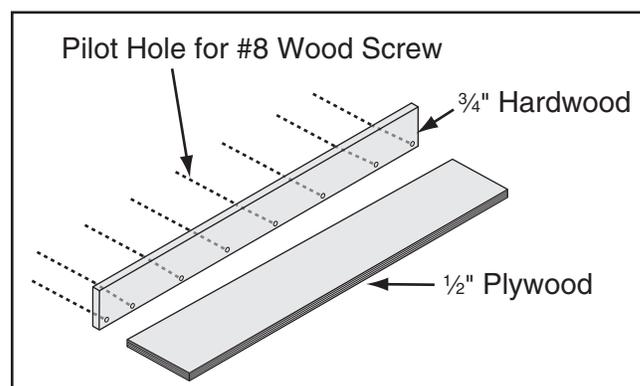

Figure 125. Location of pilot holes.
2. Pre-drill and countersink eight pilot holes $\frac{3}{8}$ " in from the edge of the 6" wide board, as shown in **Figure 125**, for the wood screws that will attach the boards together in next step.